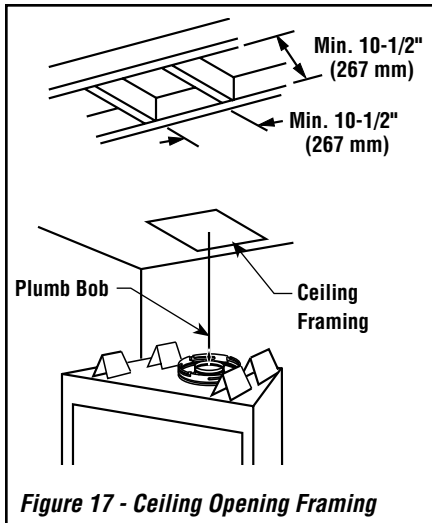

Figure 17 - Ceiling Opening Framing
A. Frame ceiling opening. Use a plumb line from the ceiling above the appliance to locate center of the vertical run. Cut and/or frame an opening, 10-1/2" x 10-1/2" (267 mm x 267 mm) inside dimensions, about this center mark (*Figure 17*).
If the vertical route is to penetrate a ceiling, use plumb line to locate the center above the appliance. Cut and/or frame an opening, 10-1/2" x 10-1/2" (267 mm x 267 mm) inside dimensions, about this center (refer to **Figure 17 on Page 18**).